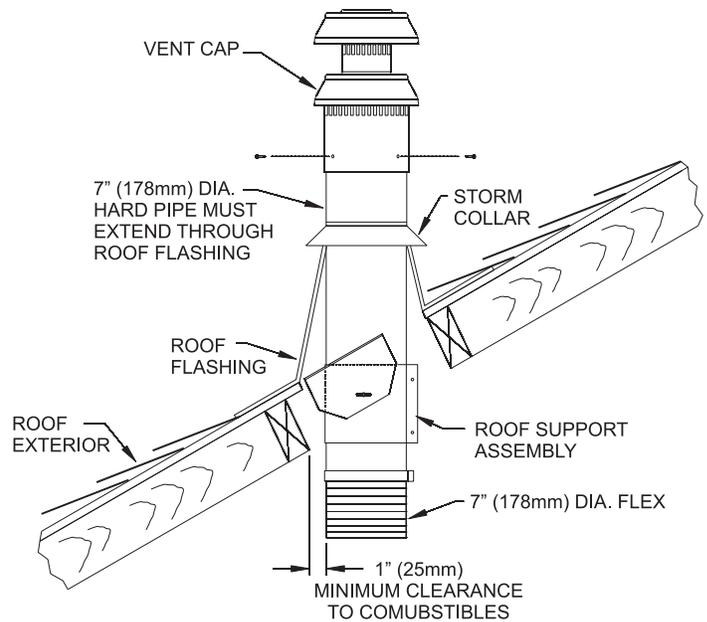

Figure 48
- Once the lower connections are made and the flex pipe is secured with support bands as required (3 feet minimum between supports) then the roof flashing can be installed. **See Figure 48.**